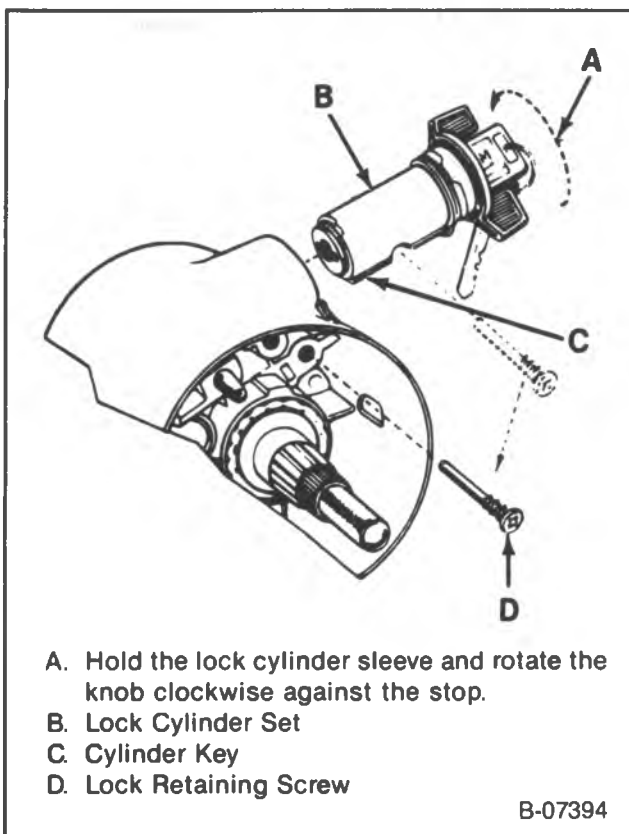

Figure 15 — Lock Cylinder Installation
Remove or Disconnect (Figure 15)
Install or Connect (Figure 15)
- Align the cylinder key with the keyway in the housing. Rotate as shown in figure 15.